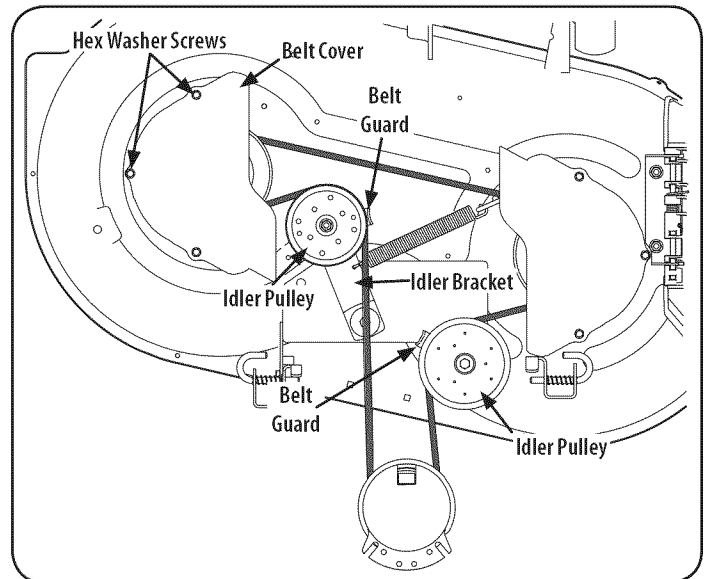

Figure 33
2. Remove the hex washer screws securing the belt covers to the deck. See Figure 33.
5. Install the new belt around the spindle pulleys as shown and reinstall the belt covers. See Figure 33.